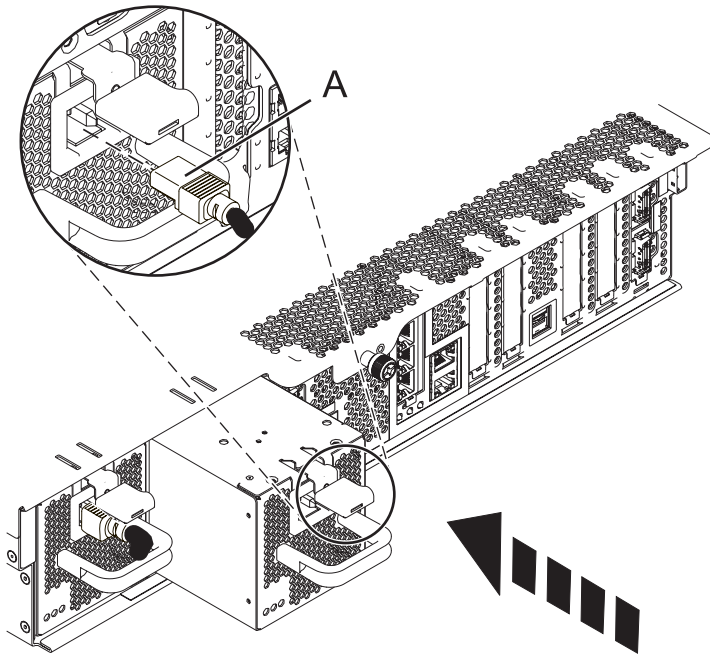

Figure 8. Replacing a power supply
4. Align the power supply with the bay and slide the new power supply into the system until the latch locks in place, as shown in Figure 8 on page 11.